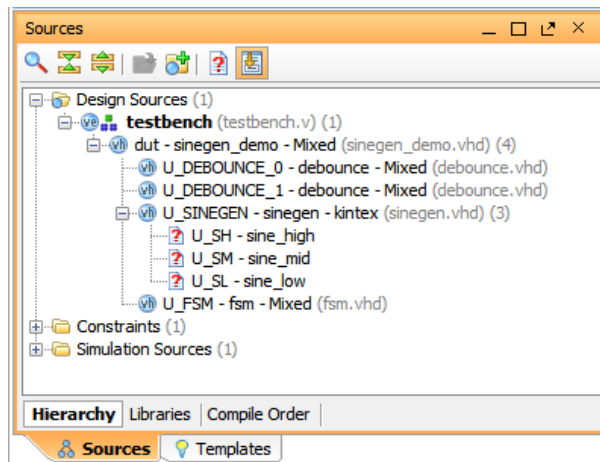

Figure 7: Sources window
1. Click the '+' character in the Sources window to expand the folders as shown in Figure 7.